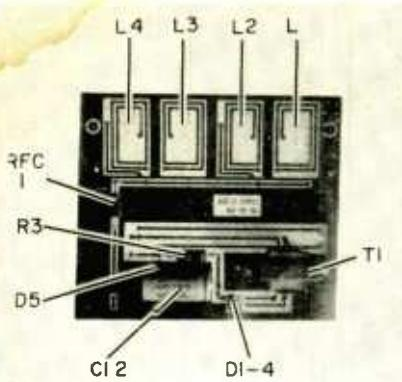

FIG. 5—POWER SUPPLY parts in position on the main circuit board.
Inductances L1, 2, 3, 4 are etched onto the master circuit board as shown in Fig. 5. The complete circuit board alone is available from PAIA ELECTRONICS, P.O. Box 14359, Oklahoma City, Oklahoma 73114; price \$8.00. Specify item 2712PC. The same source will supply a complete kit of all parts including the circuit board, but less the case and knobs, for \$27.00 plus postage for 3 pounds. Specify item 2712K.
If the complete etched-inductor/circuit board is utilized as shown and described here, the power supply components should be mounted first, and the power supply checked out as shown in Fig. 5. At the top of the board, etched inductors L1,2,3 and 4 appear from right to left. Note use of etched link coupling for inductors L2 and L4 output coupling.